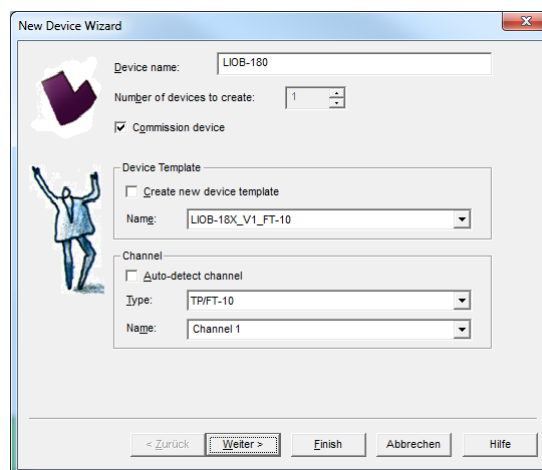

Figure 95: Create a new device in the drawing
1. In your LonMaker drawing, drag a device stencil into the drawing. Enter an appropriate name as shown in Figure 95.